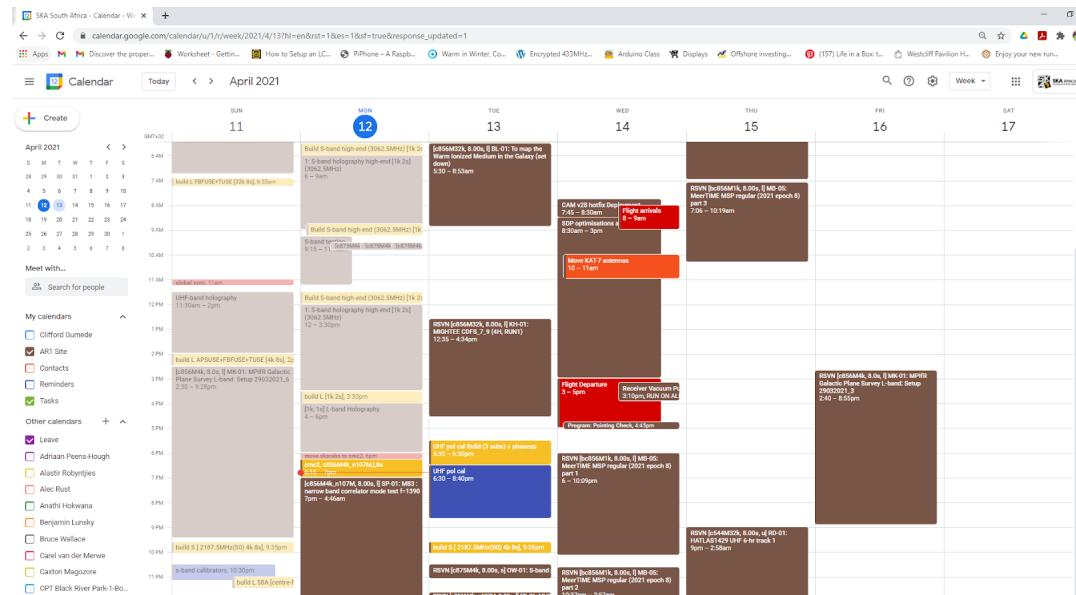

Figure 8.1: Google calendar for site activities
- Verify that you are on AR1\_site calendar, see **Figure 8.1** below for depiction of the site calendar.
- If no schedule block (SB) is assigned, then proceed to the section below.